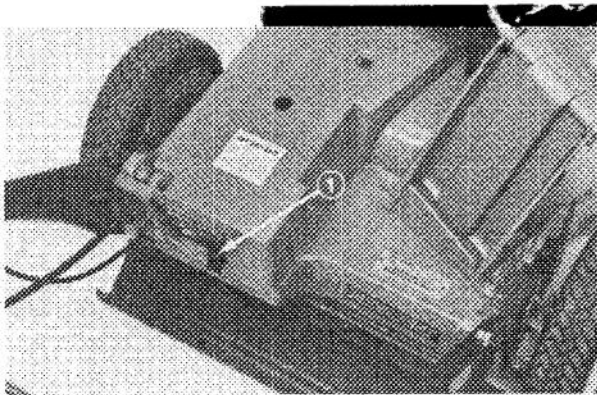

Figure 6
Ground Speed Control (Self Propelled Model) (Fig. 6) — The ground speed control has four positions: NEUTRAL (N), LOW (1), MEDIUM (2) and HIGH (3). Positioning lever in different speed settings changes ground speeds of mower.